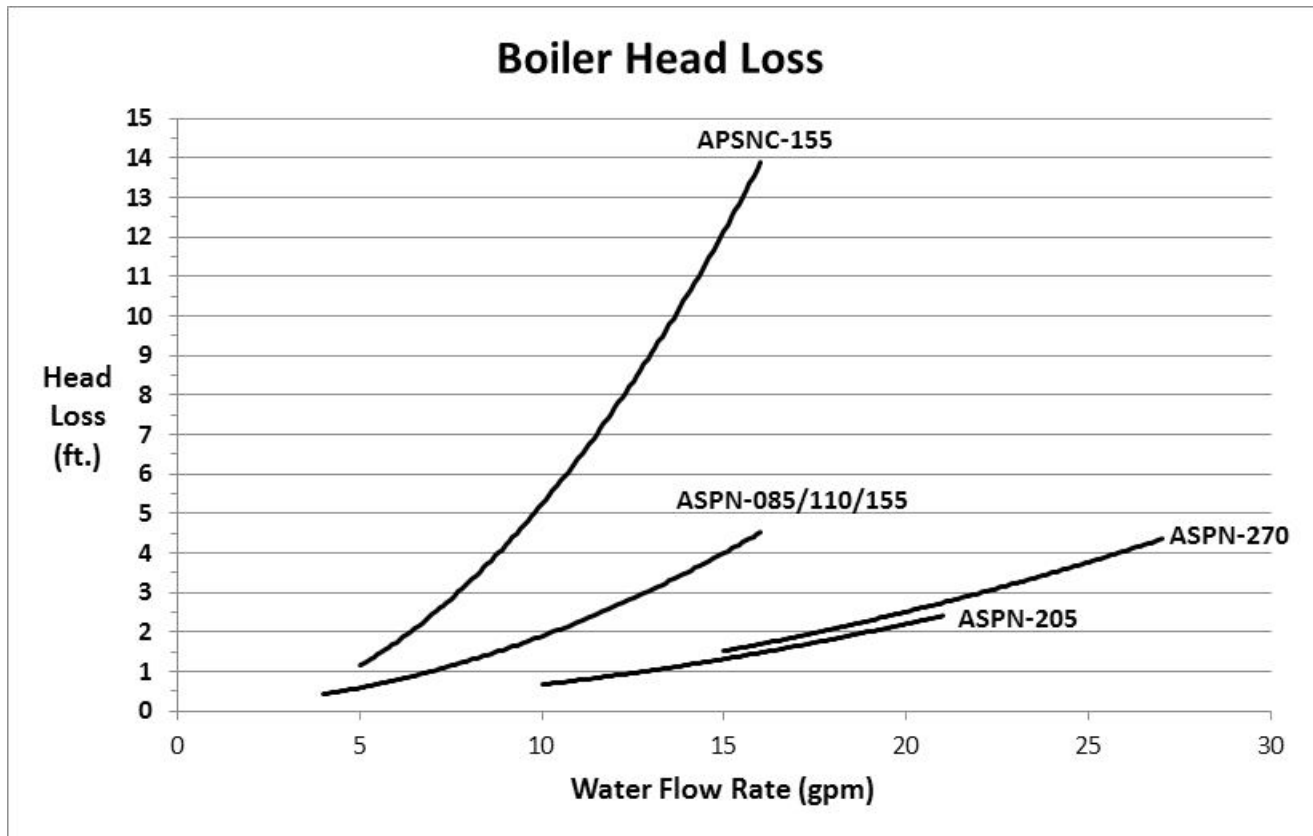

Figure 9.4: Boiler Head Loss
- 2) Boiler Loop Piping – Size boiler circulator to maintain flow requirements listed in Table 9.3. Boiler head loss is provided in Figure 9.4. Recommended circulators for 60 equivalent feet of boiler loop piping are listed in Table 9.5a and Table 9.5b.